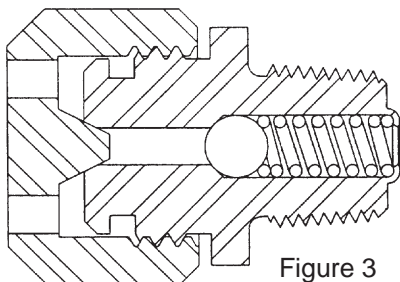

Figure 3
1.1 The M&J Valve Expanding Gate Valve (6" and larger) is provided with four (4) combination vent/injection fittings (see Figure 3) in the body. Two fittings are for emergency seat sealant injection (located on the centerline of the pipeline and either side of the gate) and two (2) fittings are provided for venting and draining the body cavity (located on the centerline of the body and near the top and bottom of the body). Valves 4" and smaller are provided with two (2) fittings (one near the top and one near the bottom) for venting, draining, and sealant injection.
2.2.2 Remove the upper body combination fitting safety cap (Figure 3). **(Caution: Watch the fitting body to insure that it does not turn while turning the cap. Do not attempt removal of the fitting while the valve is subjected to line pressure. A back-up wrench on the fitting body may be required.)**
3.3.1 Remove the combination fitting safety cap (Figure 3). **(Caution: Watch the fitting body to insure that it does not turn while turning the cap. Do not attempt removal of the fitting while the valve is subjected to line pressure. A back-up wrench on the fitting body may be required.)**
4.1 The M&J Valve Expanding Gate Valve is provided with two (2) combination vent/injection fittings in the body cavity. (See Figure 3.)